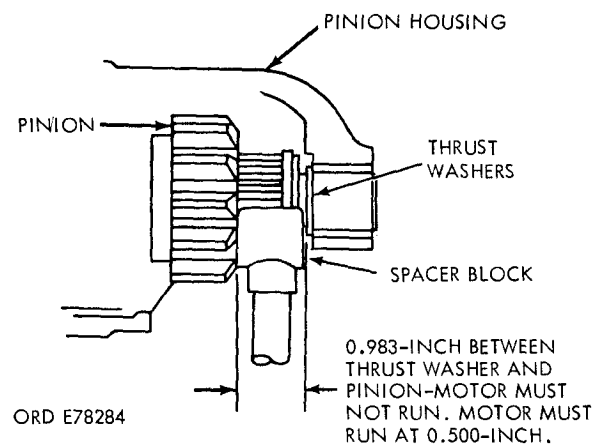

Figure 4-34. Pinion block test.
(2) Connect one of the posts of a 24-volt battery to the battery solenoid relay terminal. Connect the other battery post to the motor solenoid relay terminal.
(3) Place a 0.983-inch spacer block (fig. 4-34) between the pinion and thrust washer and momentarily hold a jumper lead from the motor switch terminal stud to the motor solenoid relay terminal. The pinion will now shift against the spacer block and remain so until the jumper lead is disconnected. The motor